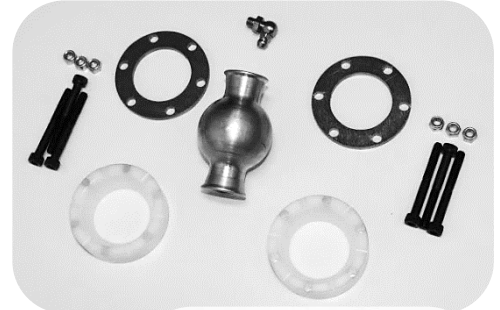

Figure 1
1. Insert two #10-32 socket head cap screws into one thrust washer and one plastic race. Spherical bore of race facing away from thrust washer. (Figure 1)